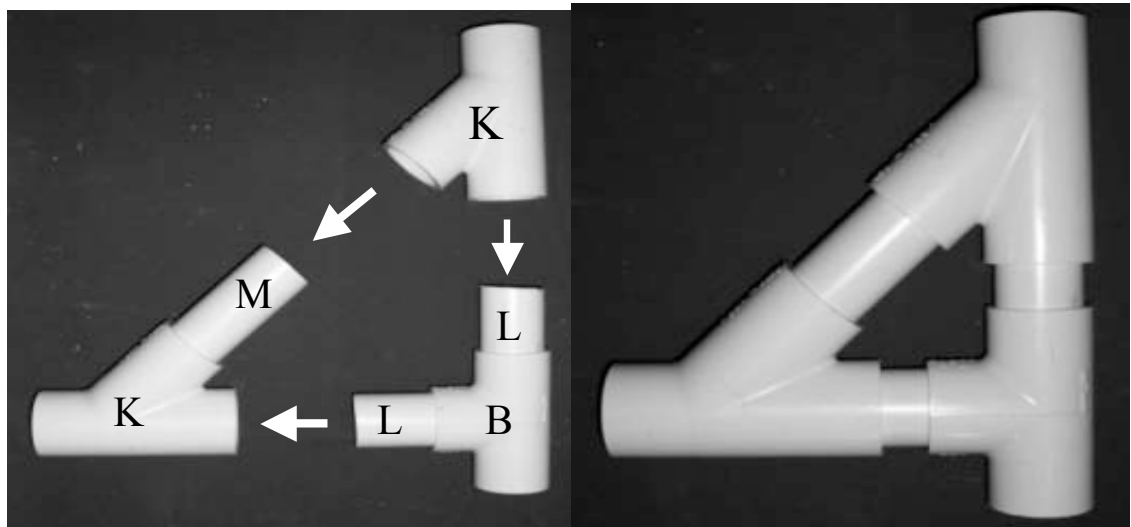

FIGURE 9 – Step 5 (Left) and Finished Section (Right) – Wheelchair Side Frame.
Step 5. Coat the inner surface of the three openings on the two Part K fittings shown by arrows in Figure 9 with PVC glue. Carefully align the openings and PVC pipe to slide into each other simultaneously. Use the mallet to properly seat each connection at an even rate by